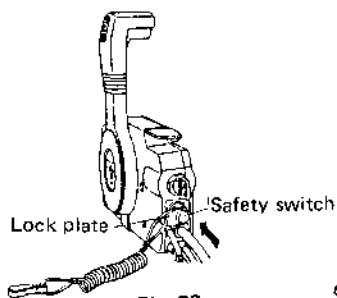

Fig. 22
4) Insert the lock plate into the safety switch. (Fig. 22)